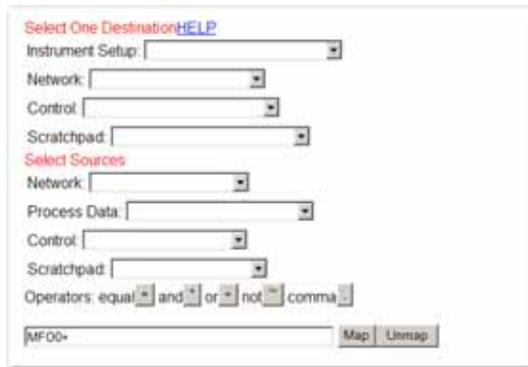

FIG. 237 MAPPING DISPLAY/SELECTING DESTINATION: MFO0 (MODBUS FLOAT OUT - WORD 0)
- Click on the Select button. “MFO0=” appears in the Map: text field. (See Fig. 237)